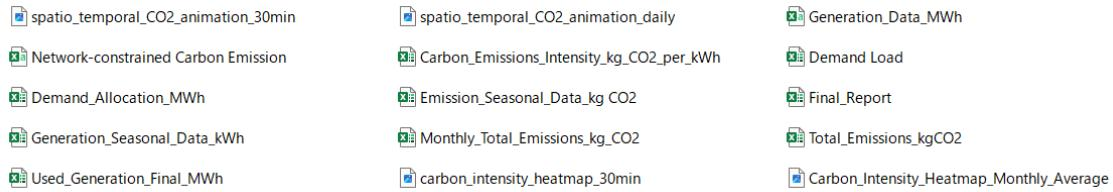

Figure 2: Output files of the carbon emission modeling
- Inside the output folder there are 11 excel files, two png files, and two gif files (Figure 2).
- **NC_CE** and **ED_CE**: these sheets' data are used to plot Figure 2(a) of the paper,
- **Power_Supply_Mix**: this sheet's data are used to plot Figure 2(b) of the paper,